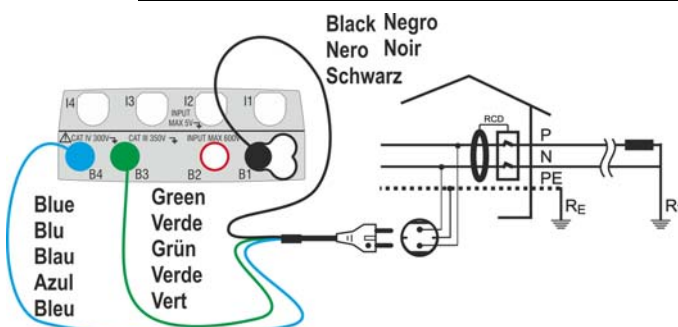
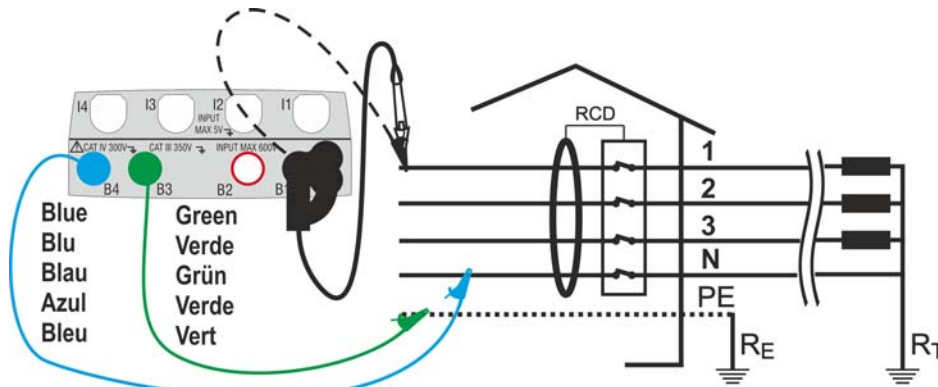
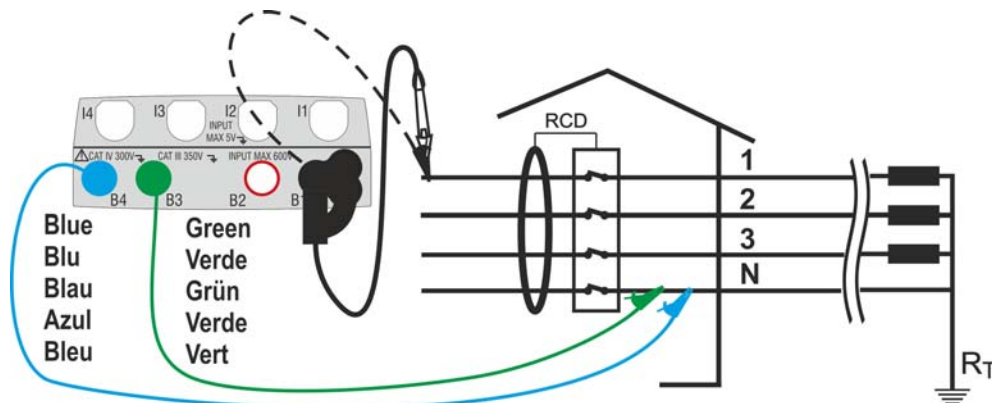
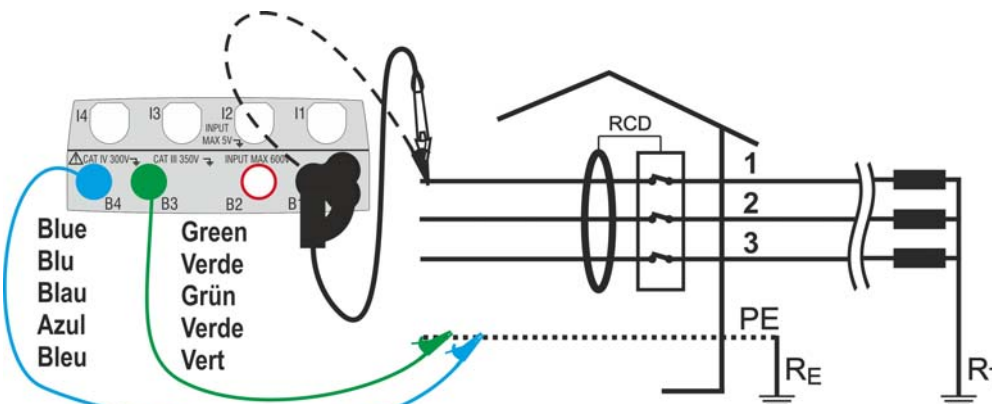

Fig. 10: Connection for single-phase 230V system by means of shuko plug
Fig. 13: Connection for a 400V + N + PE by means of single cables and remote lead
Fig. 14: Connection for a 400V + N (no PE), single cables, remote lead (no RCD B type)
Fig. 15: Connection for a 400V + PE (no N) single cables, remote lead (no RCD B type)
8. Insert the green, blue and black connectors of the three-pin shuko plug into the relevant instrument input terminals B3, B4, B1. As an alternative, use the single cables and apply the relevant alligator clips to the free ends of the cables. It is also possible to use the remote lead by inserting its multipolar connector into the input lead B1. Connect the shuko plug, the alligator clips or the remote lead to the electrical mains according to Fig. 10, Fig. 12, Fig. 13, Fig. 14 and Fig. 15.